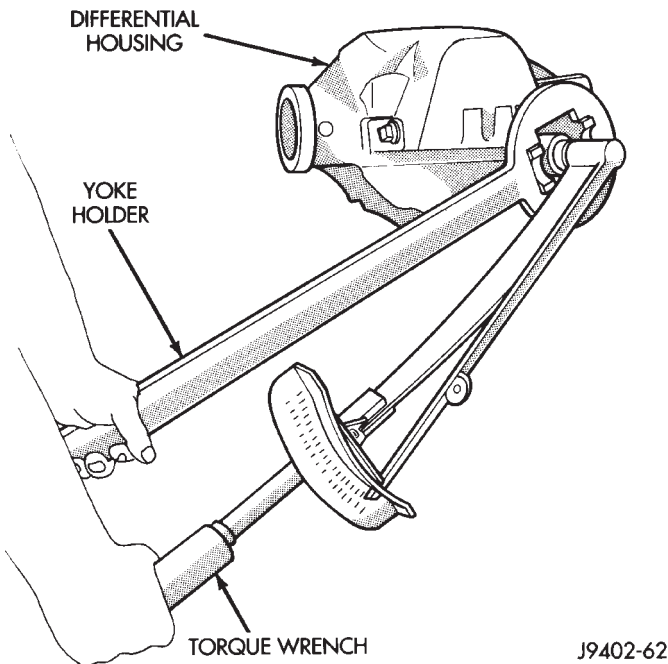

Fig. 8 Tightening Pinion Shaft Nut
- (9) Hold pinion yoke with Yoke Holder 6719 and tighten shaft nut to 597 N·m (440 ft. lbs.) (Fig. 8).
(11) If the rotating torque is low, use Yoke Holder 6719 to hold the pinion yoke (Fig. 8) and tighten the